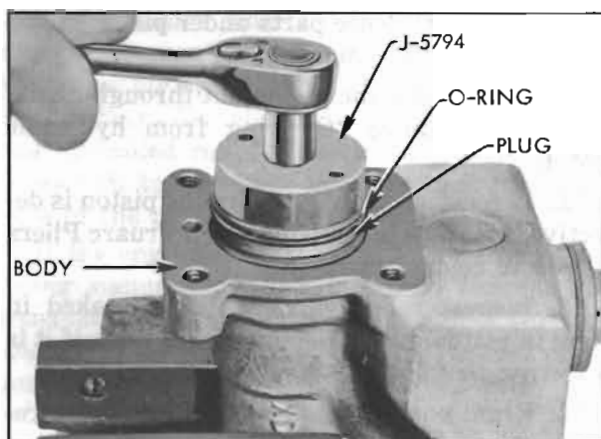

Figure 9-21—Removing Cylinder Plug
17. With hydraulic master cylinder still clamped vertically in a vise, remove power piston return spring. Remove four bolts and pull power cylinder straight up. Remove gasket. Unscrew master cylinder plug, using Wrench J-5794. Remove two "O" rings. See figure 9-21.